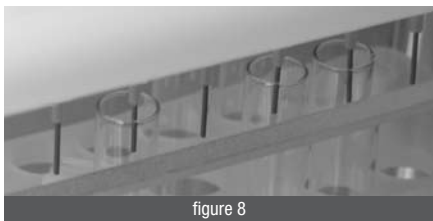
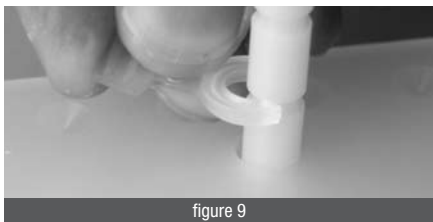

figure 8
figure 9
- D. Adjust the height of the dimpled support platform shelf so that the delivery needles in the manifold lid are a minimum of 5 mm inside the collection vessels (*figure 8*). “C”- shaped support clips attach to the posts directly under the shelf allowing height adjustment (*figure 9*).